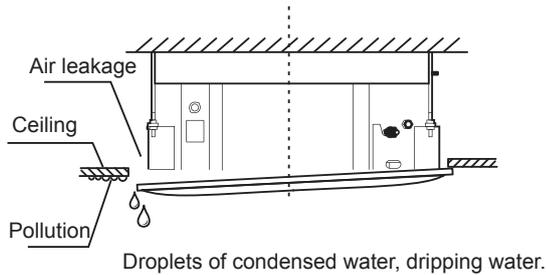

Figure 4.21
- Air and water leakages may result if the screws are too loose. See Figure 4.21